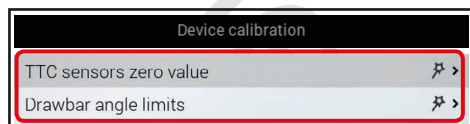

Fig. 32
**1** Select the item **TTC sensors zero value** (Fig. 32) and press **[OK]**.